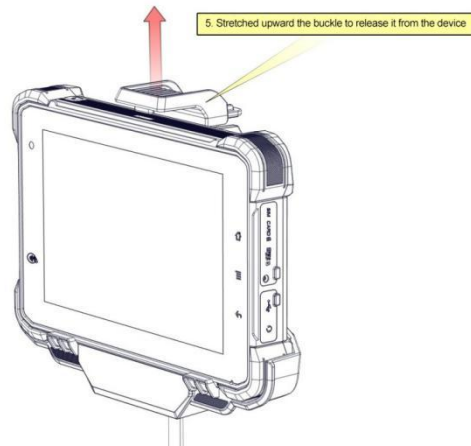

Figure 5
4.2.1 Stretch upwards the buckle to release it from the device, as Figure 5 shown.